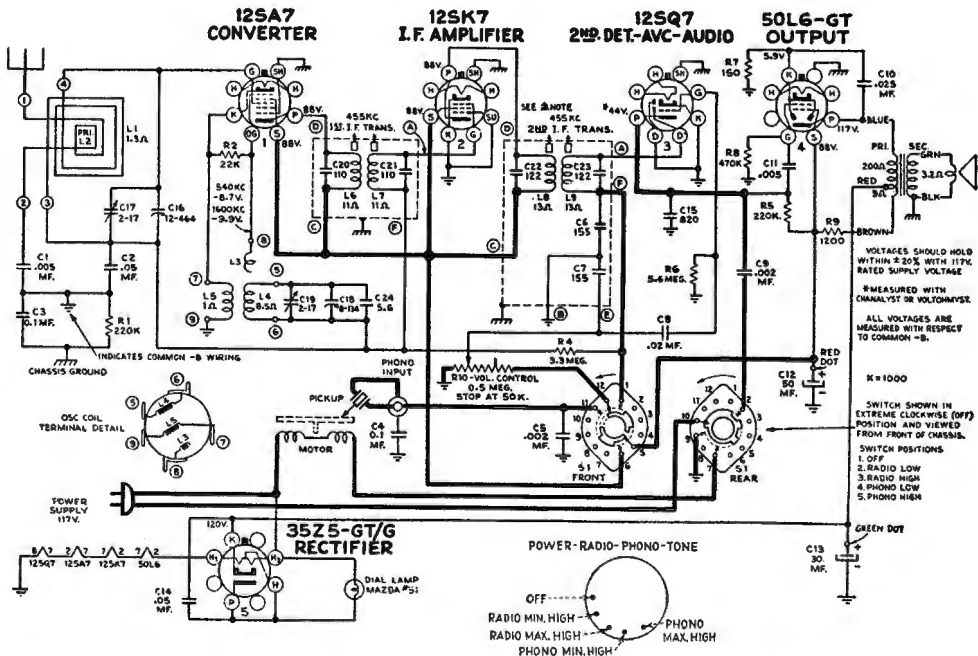
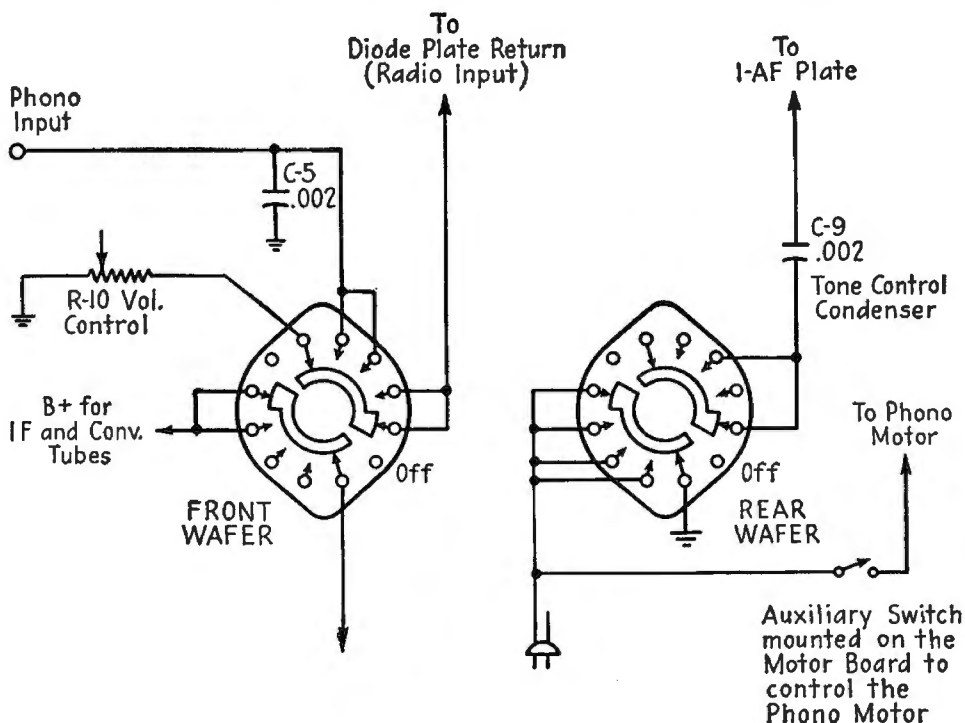

FIG. 12-17.—RCA Victor 55U radio-phonograph combination. The radio-phonograph switching is shown in heavy lines.
FIG. 12-23.—Alternate radio-phonograph switching circuit for the receiver of Fig. 12-17.
The radio-phonograph combination of Fig. 12-17 combines the on-off switch, the phonograph-motor switch, and the tone control with the radio-phonograph switch. The switch used is of the 5-point, 2-gang wafer type. The front-panel view of the switch is shown below the wafers in the schematic diagram. The operation of the switch can be analyzed by a study of the diagram and the following table.
When an original replacement switch is unobtainable, the serviceman must exercise his ingenuity to perform the operations of the original radio-phonograph switch with whatever standard switch is available and will fit the space requirement. For an extreme example, assume a defective radio-phonograph switch in the receiver of Fig. 12-17 and that an original replacement is unobtainable. A two-deck, four-arm, five-position switch could be substituted in accordance with the diagram of Fig. 12-23.
6. The receiver of Fig. 12-7 has a defective phonograph-radio switch. An exact replacement is not obtainable. The customer indicates a desire to have the phonograph motor operated from the phonograph-radio switch and, since he always uses his radio in the position of maximum high, he is not interested in the tone control. Redraw the diagram of Fig. 12-23 to meet these conditions.